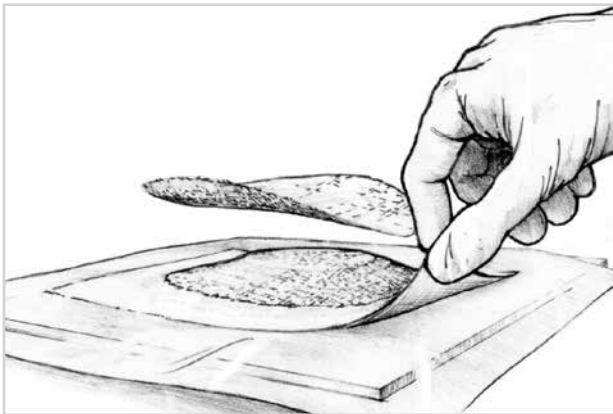

Figure 4-7 Build up a plug of wet-out fabric approximately the size, shape and depth of the hole.
3. Wet out each piece of fabric with epoxy and stack the fiberglass cloth pieces on the working surface beginning with the smallest piece and finishing with the largest. Center each layer over the previous layer. You will end up with a plug of wet-out fabric approximately the size, shape and depth of the hole (Figure 4-7).